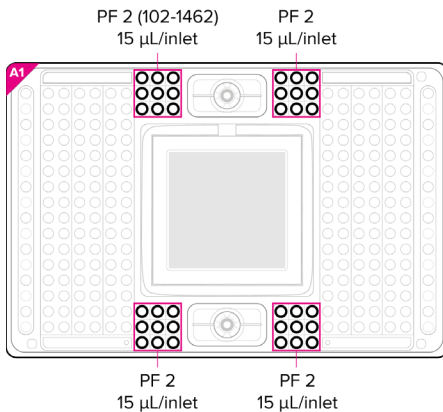

Figure 7. Pipetting map for PF 2
- 4 Holding the IFC at a 45° angle, insert the syringe tip into an accumulator (**Figure 7**).
- 5 Use the syringe tip to press down gently on the black O-ring to move it (**Figure 7**). Visually confirm that the O-ring has moved.